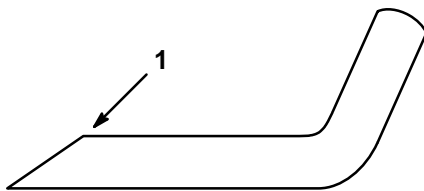

Figure 23
5. **SHARPENING BLADE** – Using a file, sharpen top side of blade and maintain original cutting angle (Fig. 23). The blade will remain balanced if same amount of material is removed from both cutting edges.